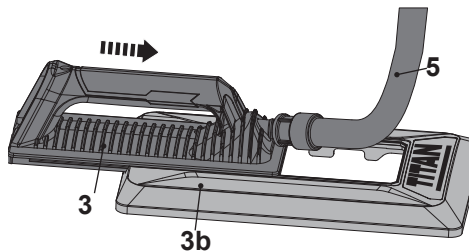

Fig. 5
- Slide the steam plate (3) back into the track of steam plate apron (3b). Ensure the hose (5) is not squeezed by the steam plate apron (3b) (Fig. 5).